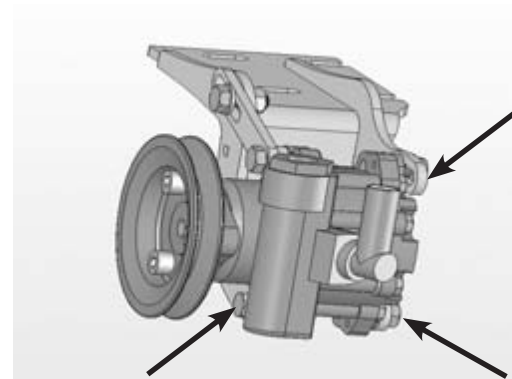

Figure 2.2.3.4-2
3. Tighten the belt by moving the pump away from the bearing housing as indicated in figure 2.2.3.4-2. The screw on the right side is intended for moving the pump.